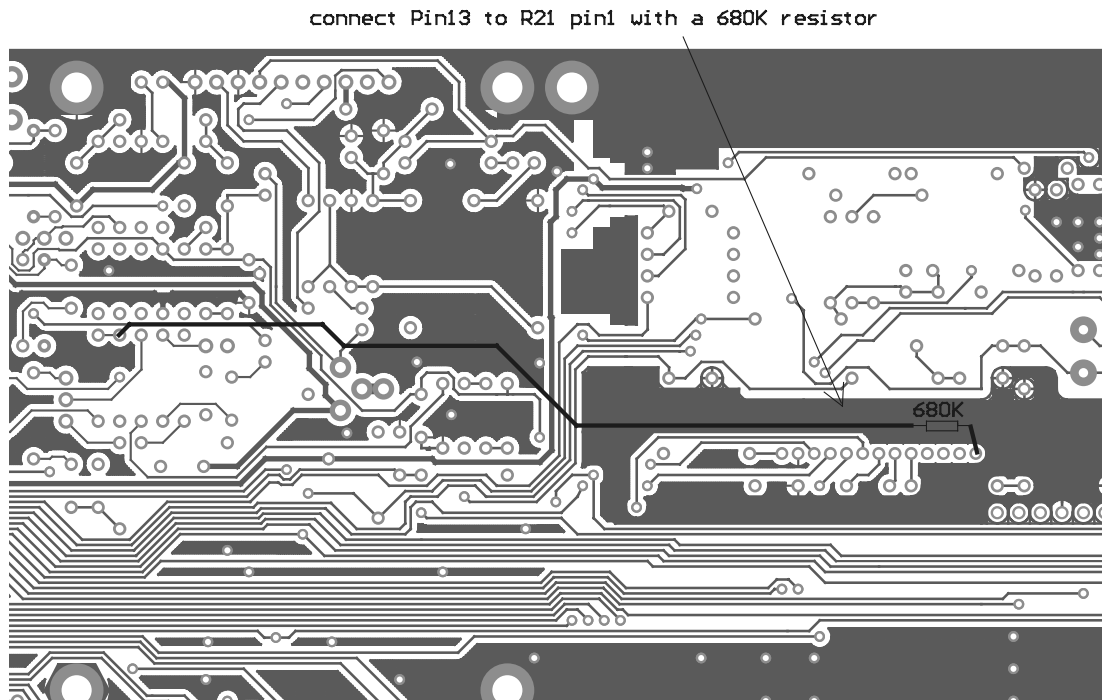

Figure 5 Tx PCB bottom layer
3. Add connections as shown in Figure 5